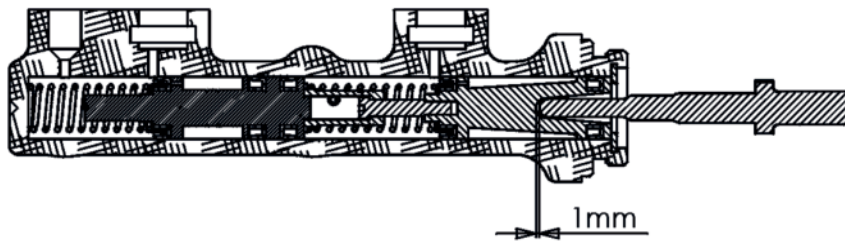

Fig. 2
- Check the rod that goes into the master cylinder from the pedal. It should have an 1/8 inch of play before, you can feel the rod make contact with the plunger (see Fig.2).
- Das Spiel sollte 1 mm betragen. Siehe Fig.2